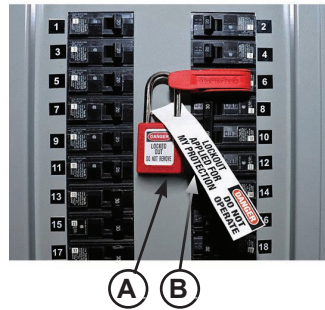

Figure 27
When working with electrical or electronic controls, make sure that the power source has been tagged (B) and locked out (A) according to OSHA regulations and approved local electrical codes (see Figure 27).